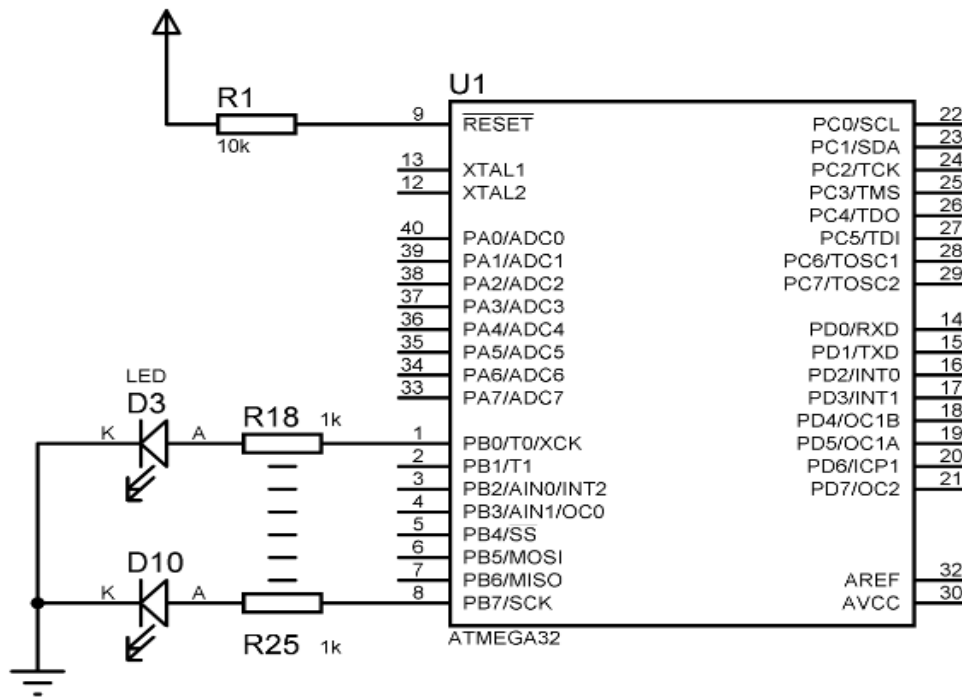

Figure 2.1 Circuit Diagram
2. Implement the circuit as shown in Figure 2.1 and give the power.